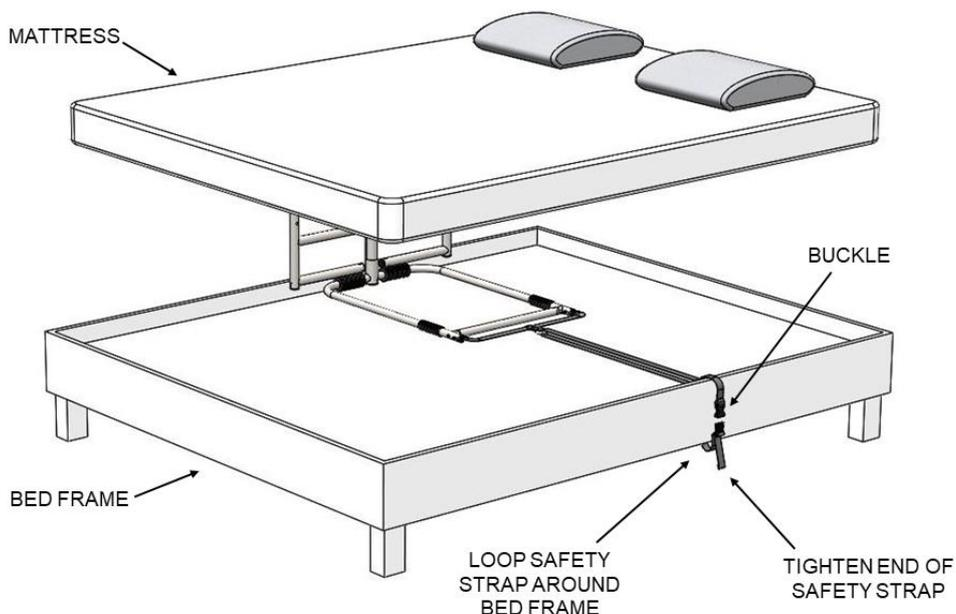

FIGURE 5
5. **IMPORTANT!!!** Secure the SAFETY STRAP to the bed frame, as shown in Figure 5. Unbuckle strap and loop strap around bed frame and re-buckle. Tighten strap to secure Handle Assembly against the side of the mattress as shown in Figures 5 and 6.
DO NOT INSTALL PRODUCT WITHOUT SECURING THE SAFETY STRAP TO THE BED FRAME AS SHOWN IN FIGURES 5 and 6. IF YOU HAVE ANY QUESTIONS CALL STANDER AT (800) 506-9901 or (435) 755-0453. Do not install product unless there is a bed frame to secure the Safety strap to as shown in Figure 5.